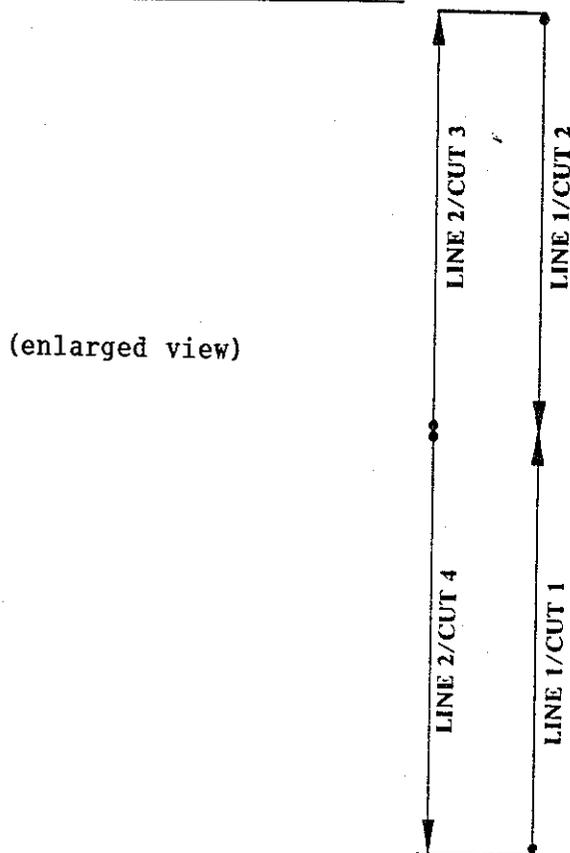
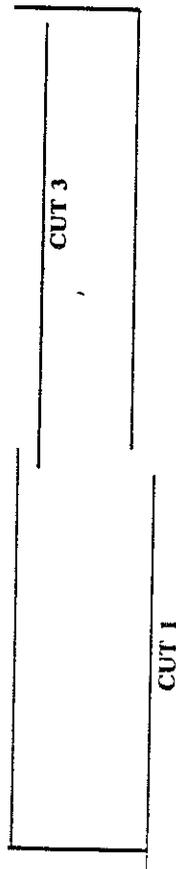

FIGURE 4-2 : KNIFE ASSEMBLY CALIBRATION TEST PATTERN 2 :
FIGURE 4-3. KNIFE ASSEMBLY CALIBRATION EXAMPLE
- then the knife starts from the middle and moves to the bottom horizontal line, which results in line 2/cut 4. (see Figure 4-2)
As shown in the test pattern in Figure 4-3, the odd numbered cuts (cuts 1, 3) are shifted to the right and are slightly lower than the even numbered cuts.
To calibrate the knife assembly that produced the Figure 4-3 test pattern, the ARROW/LEFT key would have to be pressed approximately 8 or 9 times to move the odd numbered cuts to the left. The ARROW/UP key would have to be pressed approximately 4 or 5 times to move the odd numbered cuts slightly higher. After pressing the ENTER key, the cutter will produce another test pattern which includes the corrections. If the new pattern is correct (see Figure 4-2) and the rectangle is easy to weed, press the ENTER key to save the new parameters and exit the calibration routine. If additional corrections are required, repeat the procedure using the manual movements keys.